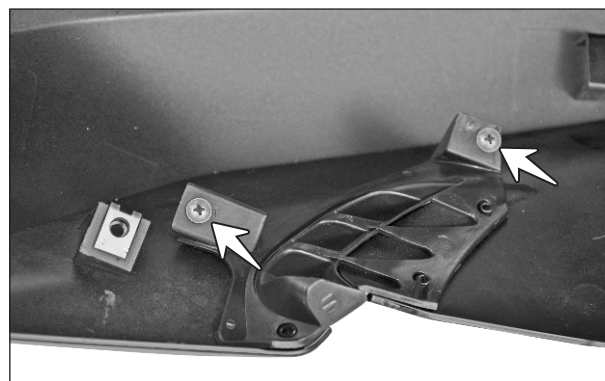

Fig. 2.20
- Remove the CRR flanged pan head tap screw (ST4.2x13 - 2 nos.) from the mounting of grill cover fuel tank R. (Fig. 2.20)